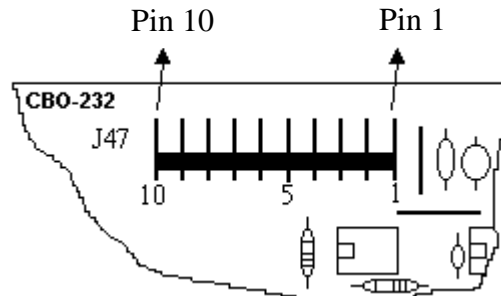

FIGURE 3
- Connect the 10 pins P47 cable on the CBO-232 card, in the correct orientation, white mark is the pin 1. (See FIGURE 3, page 6).